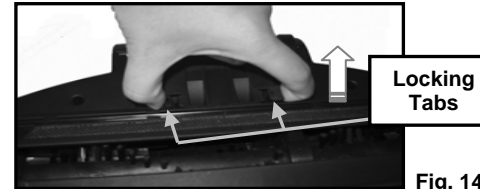
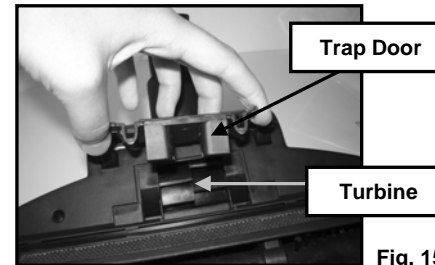

Fig. 14
Fig. 15
- Using your thumb and index finger, simultaneously squeeze the locking tabs on either side of the trap door and lift off. (Fig. 14) Doing so will remove the trap door and allow you access to the turbine for cleaning and maintenance purposes. (Fig. 15)